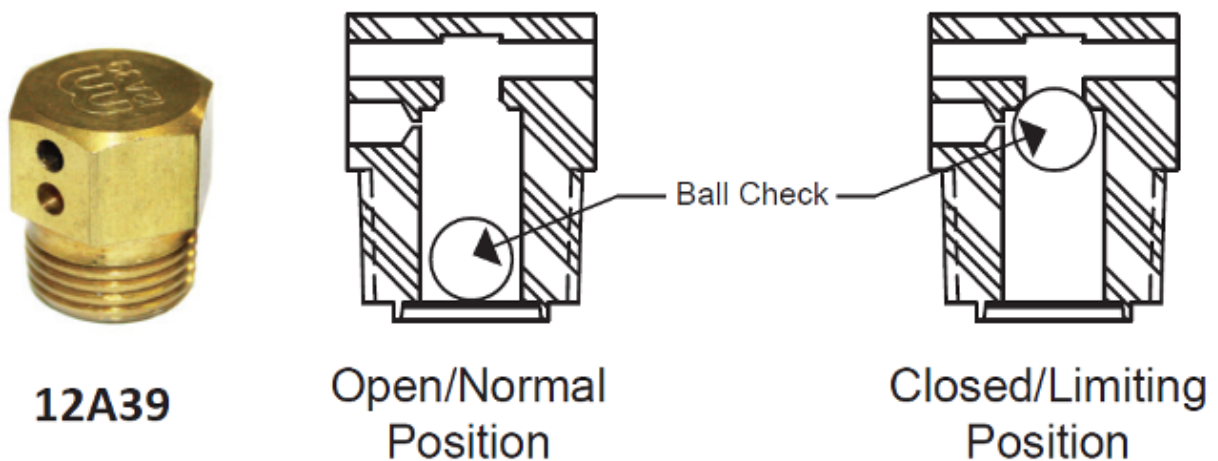

Figure 17. Leak limiter
Special leak limiting devices are designed to ensure fast diaphragm response by allowing the free movement of air under normal regulator operating conditions. However, if the diaphragm ruptures, the high pressure flow of gas causes the ball check or disc check to limit the flow of gas (Figure 17). The leak limiting device must be in the vertical position or the ball check could roll into the closed/limiting position causing the regulator to not operate properly.
- Figure 17. “Leak limiter” from Maxitrol is used and adapted for educational purposes under the basis of fair dealing.